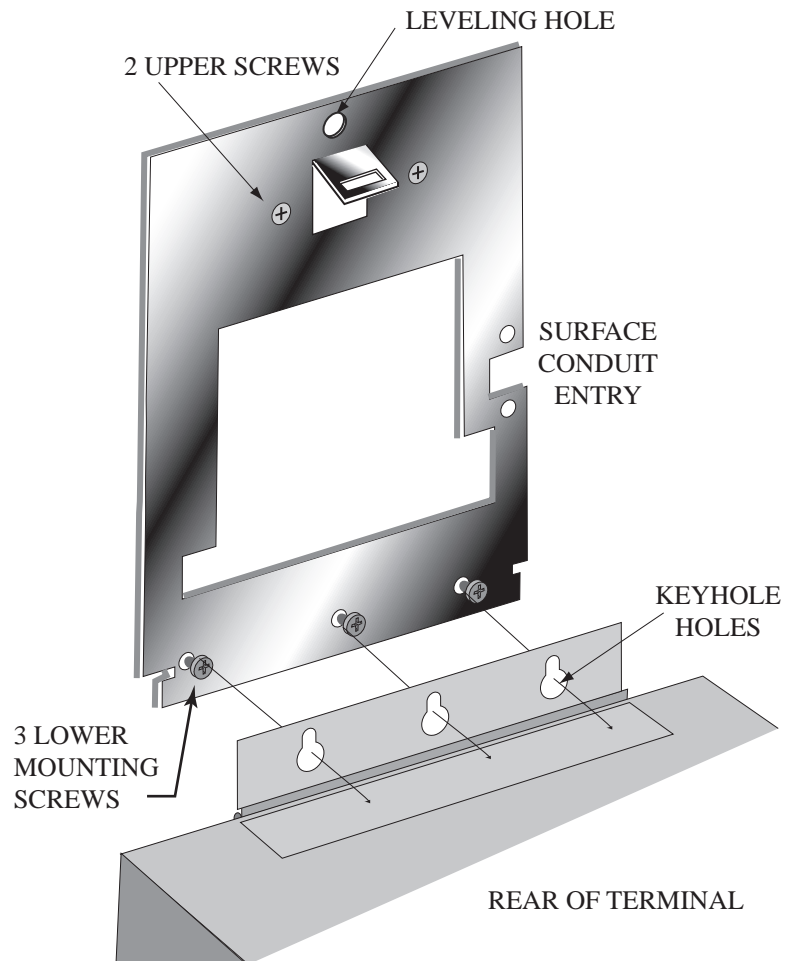

Figure 12-3: Attaching the HandPunch to the Wall Plate
3. At the base of the HandPunch is a piano hinge with three keyhole shaped slots that correspond with the three lower mounting screws. Align and hang the HandPunch from the three lower mounting screws (see Figure 12-3 on page 54).